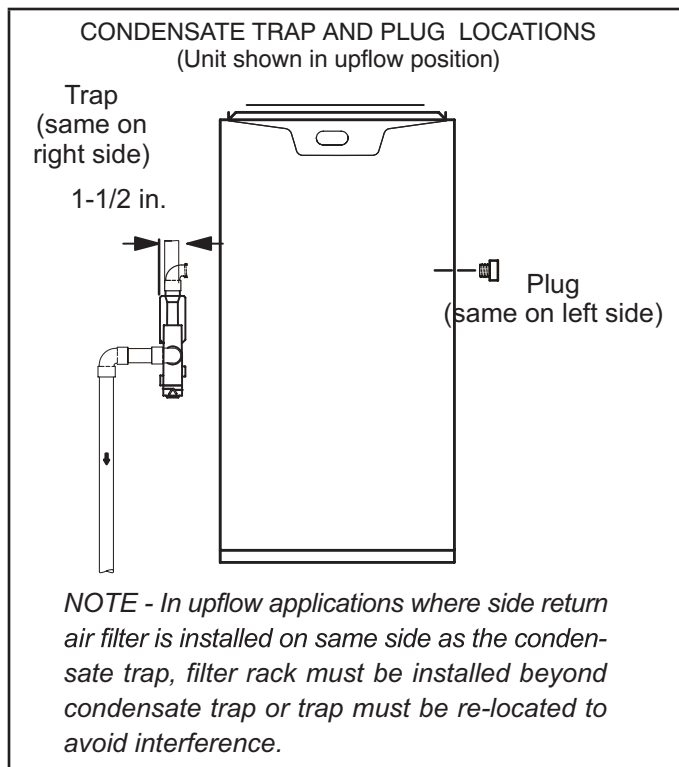
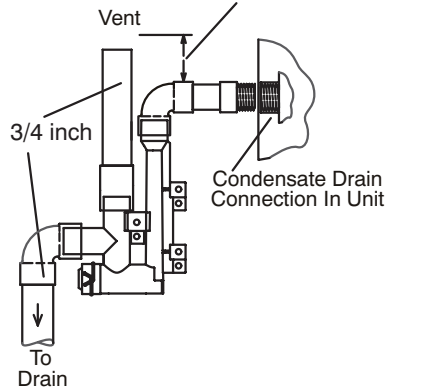

FIGURE 48
FIGURE 56
Refer to FIGURE 48 and FIGURE 50 for condensate trap locations. FIGURE 56 shows trap assembly using 1/2" PVC or 3/4" PVC.
- 3 - Install the cap over the clean out opening at the base of the trap. Secure with clamp. See FIGURE 56.
- 4 - Install drain trap using appropriate PVC fittings, glue all joints. Glue the provided drain trap as shown in FIGURE 56. Route the condensate line to an open drain. Condensate line must maintain a 1/4" downward slope from the furnace to the drain.